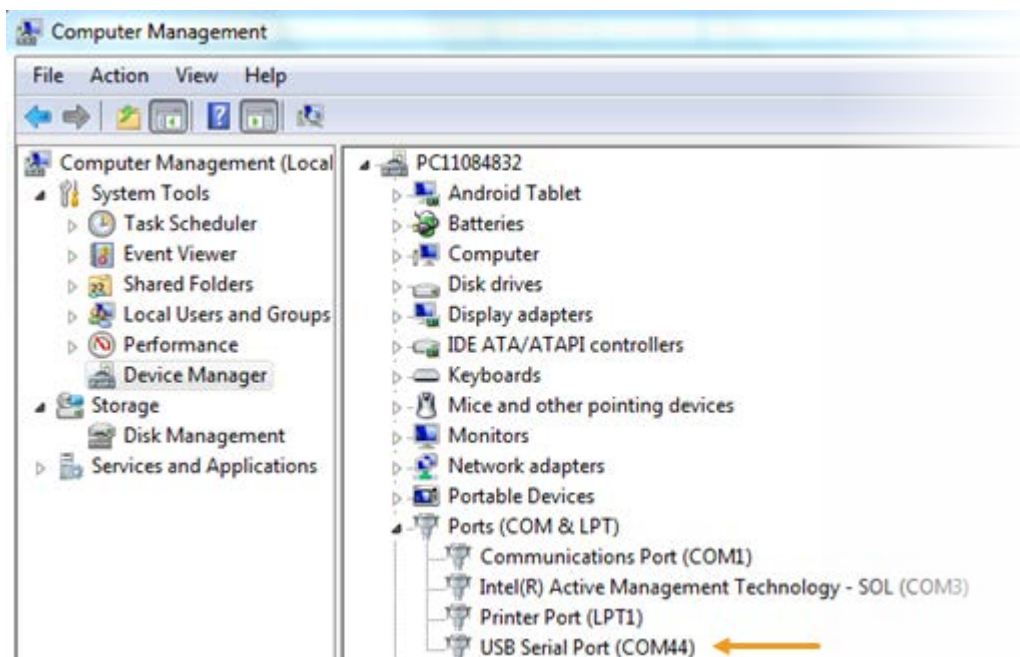

Figure 19. HDK in Device Manager
- 2) In Device Manager, navigate to **Ports (COM & LPT)** (see Figure 19).